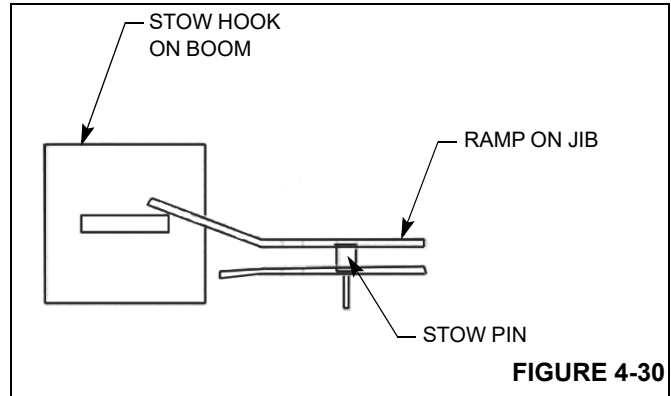

FIGURE 4-30
8. Retract the boom slowly. Observe the stow hook and lock assembly alignment as the boom is retracted, Figure 4-30.